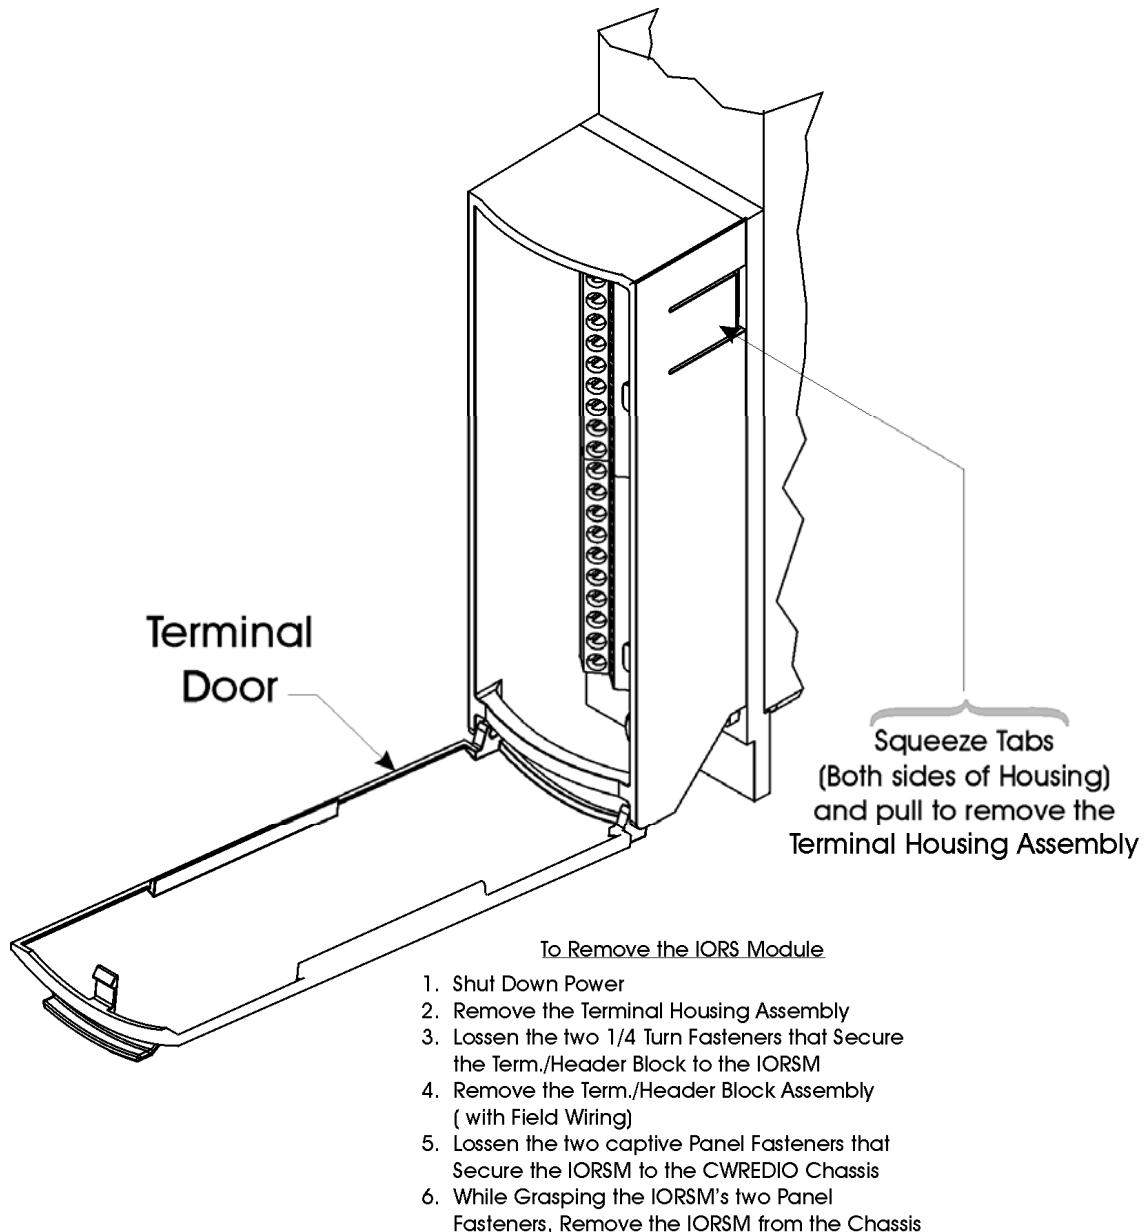

Figure 2-7 - Terminal Housing Assembly Removal
1. Remove the IORSM from its shipping carton and remove the Terminal Housing Assembly from the IORSM (see Figure 2-7).